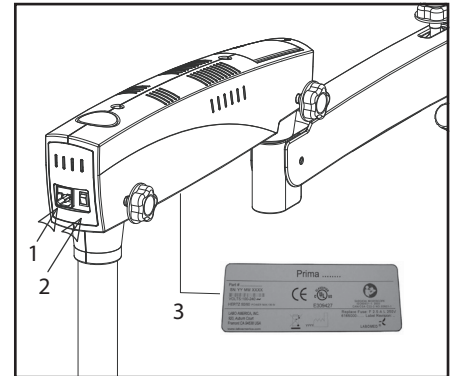

Fig 7
Connect the power cable to the AC inlet socket (1) located at the back of the swivel arm (see Fig. 7).
Note: The power supply is designed with universal input 100V-240V AC, 50/60Hz. To plug in the power supply, follow the instructions on the electrical label located at the bottom of the arm (see 3 in Fig. 7).